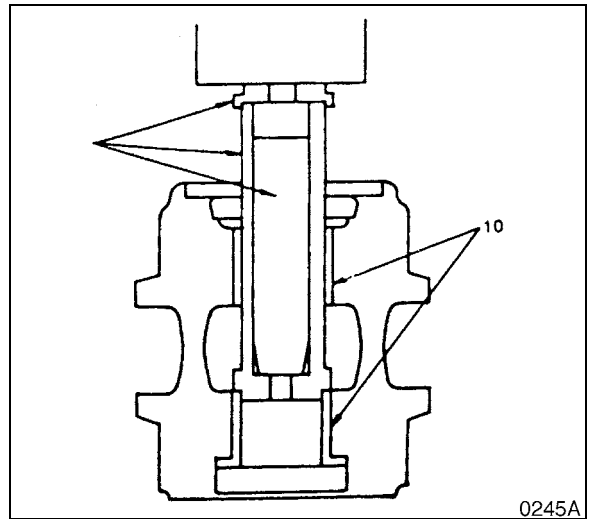

Figure 43
5. Separate the bushing (10, Figure 43) from the roller with a press and special tool (ST-1919).